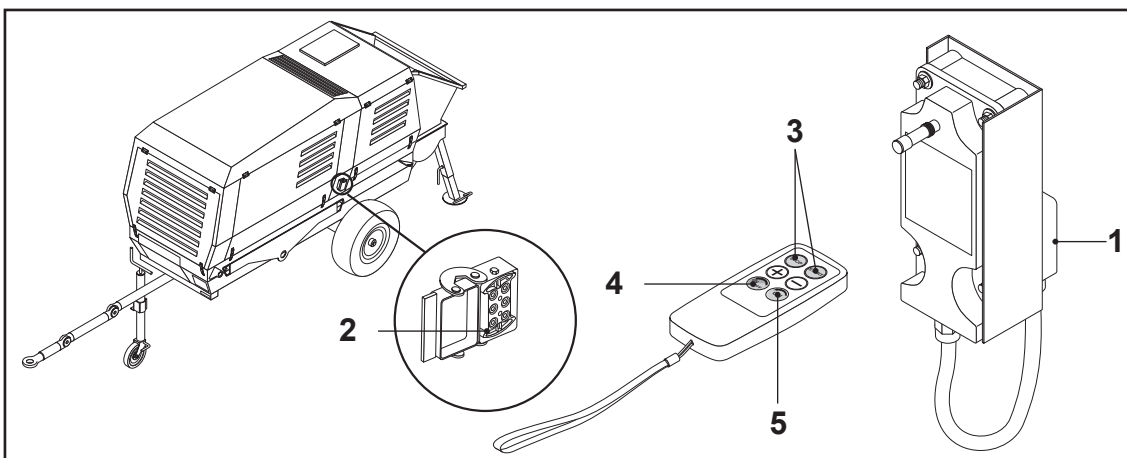

FIG. 27
- Connect the plug (FIG. 27-REF. 1) to the connector socket (FIG. 27-REF. 2).
- Press the button (FIG. 27-REF. 3) to switch the remote control on and off.
- Press the button (FIG. 27-REF. 4) to start pumping. Press the button again to stop pumping.
- To reverse pumping (i.e., sucking the mix from the pipe on the hopper), make sure the button (FIG. 27-REF. 4) is turned to ON and press the button (FIG. 27-REF. 5) for the time required.